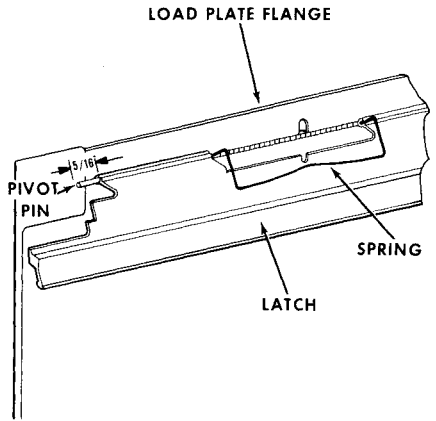

Figure 12 - Latch Spring Installation
3. Remove latch and spring. See figure 12.
3. Drive new pin in place so that 5/16 inch is projecting. See figure 12.